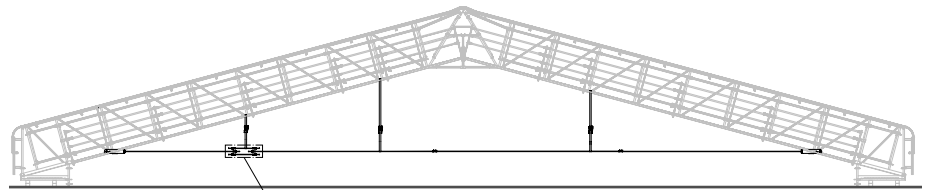
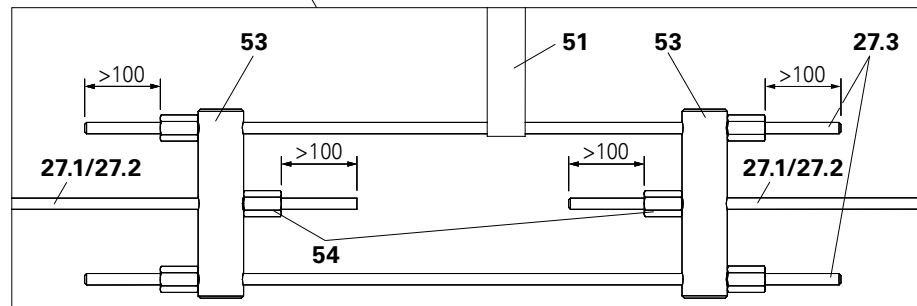

Fig. A8.05
Fig. A8.05a
5. Screw on Hex. Nut (54) onto each of the projecting ends of the Tie Rods (27.3) – 4x. Allow projection > 100 mm! (Fig. A8.05a)
6. Fix Tension Belt (51) to one of the short Tie Rods.
7. Tighten middle Hex. Nut (54) until reference dimension of the respective span is reached – 2x. Reference dimension, see Section B1.2 – B1.4. (Fig. A8.05)
- Check projecting Tie Rod (27.2) – dimension 100 mm, 6x – in the Tension System Connector. (Fig. A8.05a)